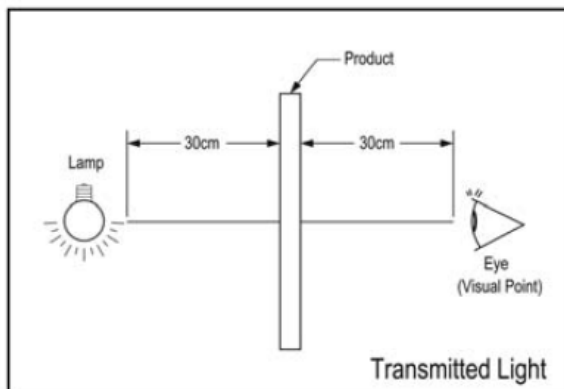

Fig 8-1
- (1) A 17W fluorescent luminant lamp is used for appearance inspection. Detail settings are shown in (Fig 8-1) and (Fig 8-2).
- (2) Minor impurities outside viewing area are acceptable unless their existence affect electrical functions.